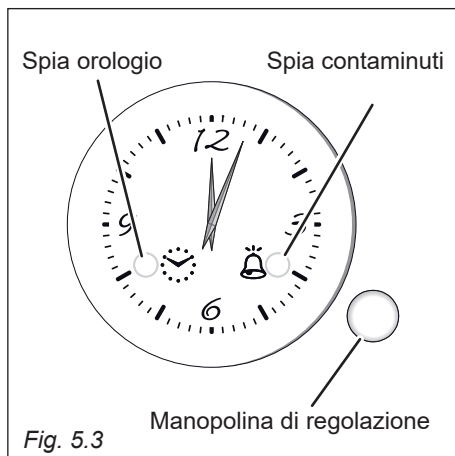

Fig. 5.3
**MODELLI CON OROLOGIO ELETTRICO CON CONTAMINUTI** (fig. 5.3)